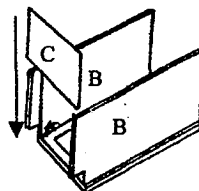

Figure 3
4. Install the bottom (Figure 3): gently spread side panels and insert bottom (C) into the grooves of side panel (B) until it touches the face frame (A). Align it and lock each cam lock.